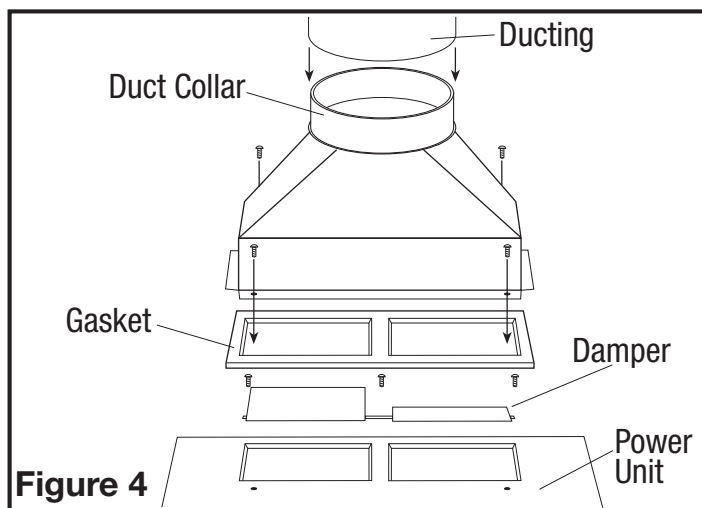
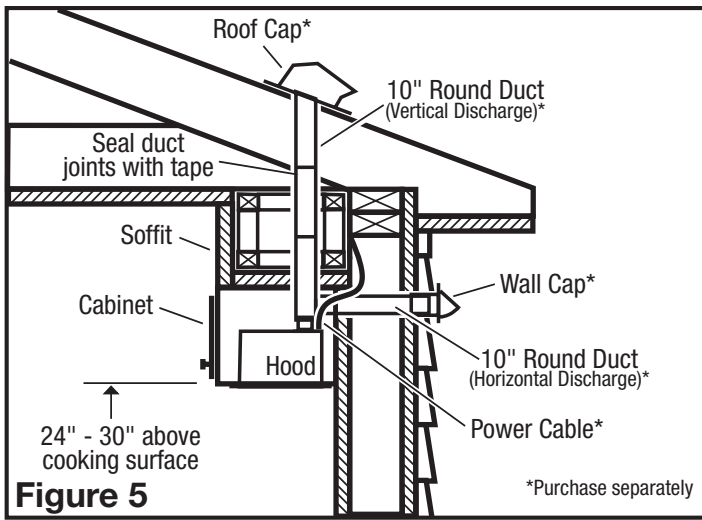

Figure 4
Figure 5
1. Install the included damper to the hood with three of the provided #6 blunt tip screws. Peel backing off the included gasket and while holding the dampers in a vertical position install the gasket onto the hood. Make sure to align the holes and rectangular cutouts to ensure the dampers open smoothly. Install the included duct collar to the hood with four of the provided #6 blunt tip screws (**Figure 4**). Ensure duct joints and exterior penetrations are sealed with caulk or other similar material to create an air-tight path to minimize building heat loss or gain and to reduce the potential for condensation. Place/wrap insulation around duct and/or fan in order to minimize possible condensation buildup within the duct, as well as building heat loss or gain (**Figure 5**).
- When there is access to the top of the unit, connect the ducting to the duct collar and secure in place using tape to seal all joints (**Figure 4**).